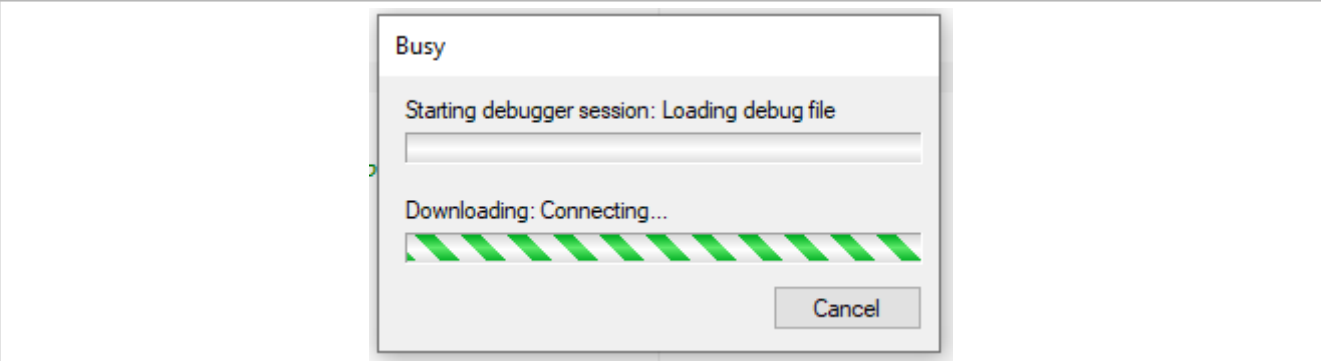

Figure 20. Downloading code to the MIMXRT1180-EVK board
12. Build and compile the SDK project and download it to the MIMXRT1180-EVK board, as shown in Figure 20 . Connect MIMXRT1180-EVK EtherCAT port0 with EtherCAT master.